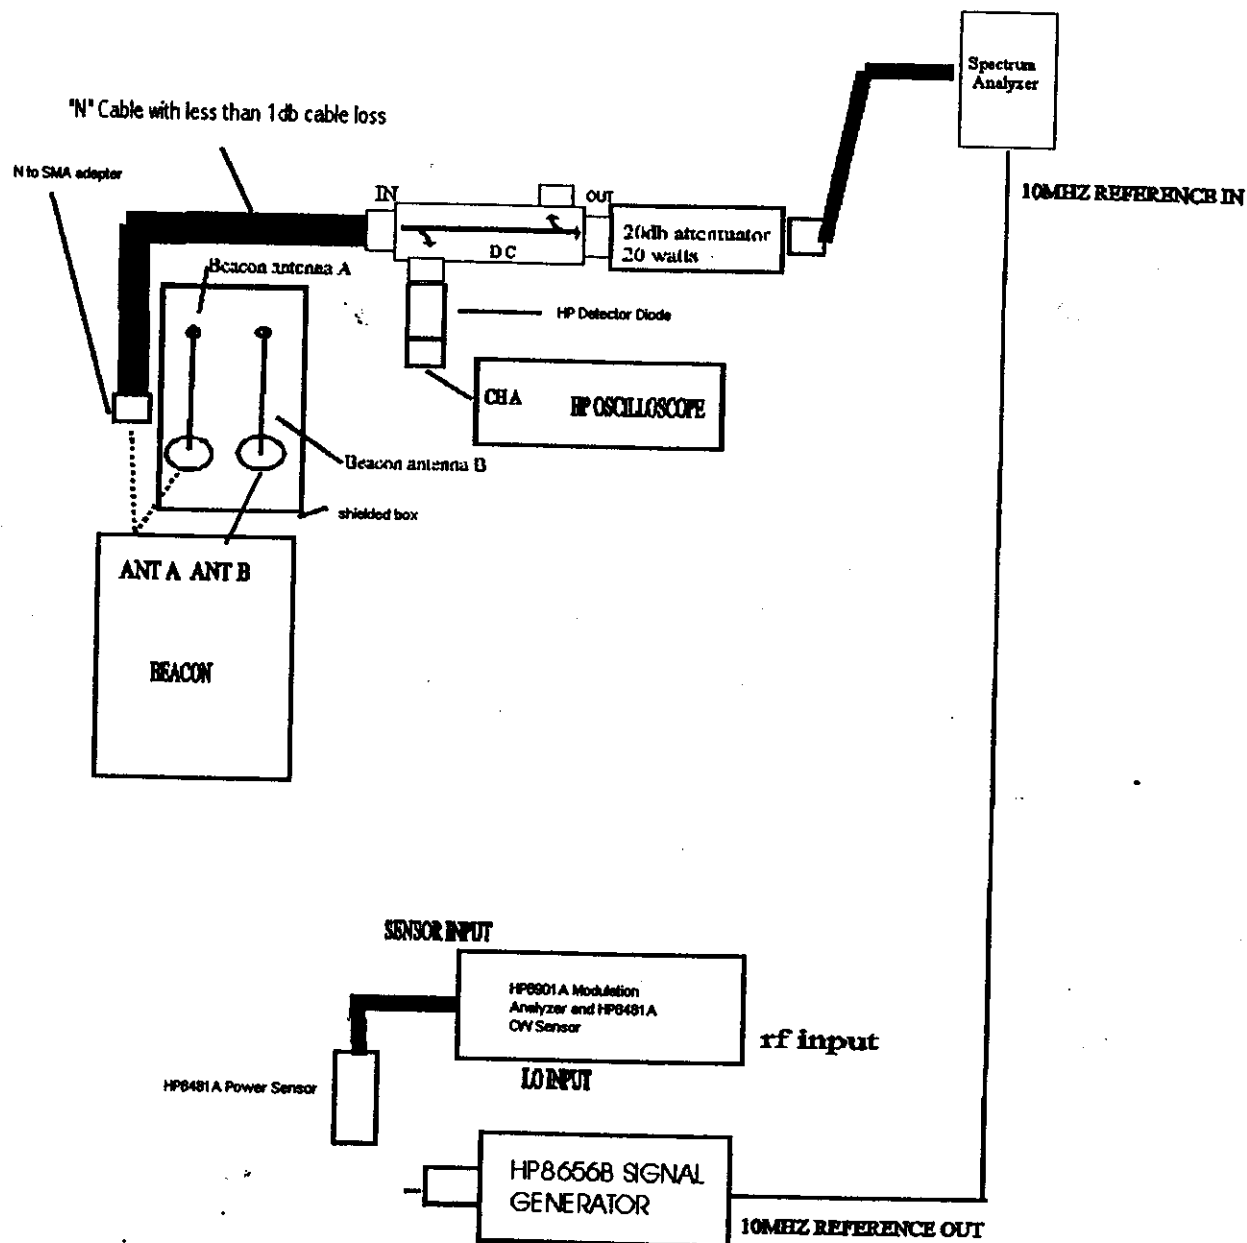

Figure 2 System Test Setup
- 4.2.1 Connect the equipment as shown in Figure 2 with the directional coupler input cable connected to the beacon antenna A output. Turn the HP8656b RF output **ON/OFF** to **OFF**. Activate beacon by removing magnet from top of unit. **Allow unit to warm up 5 minutes unless already warmed up.** Use the **recall location 1** on the spectrum analyzer to obtain the setup and normalized reading for the 121.5Mhz signal. Note there is a swept tone on the scanner set to 121.5 Mhz. Use **MARKER PEAK SEARCH**. Measure and record on the test data sheet the output power and calculate the Effective Isotropic Radiated Power (EIRP)